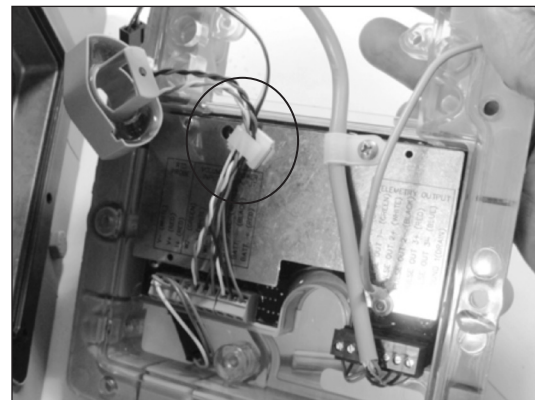

Figure 9.17 - Wiegand wires placed inside holder
- On the back of the new index, be sure the Wiegand wires are placed inside the white holder as shown in Figure 9.17.